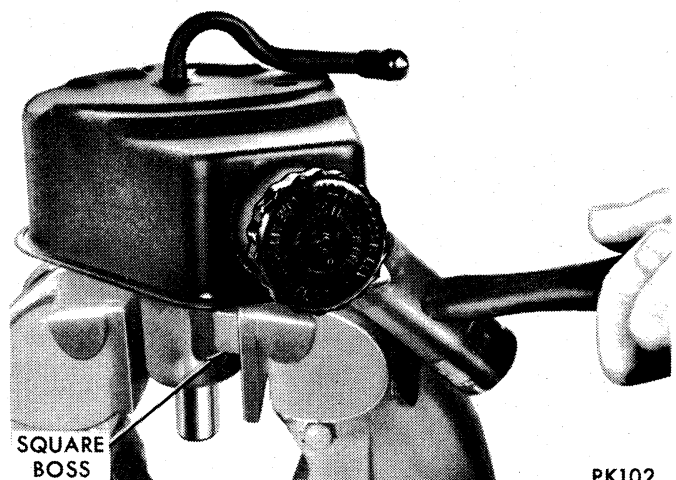

Fig. 5—Removing Reservoir
(6) Remove two mounting studs and pressure hose fitting. Gently tap reservoir filler tube back and forth with plastic hammer to loosen. Work reservoir off pump body (Fig. 5). Discard "O" rings from reservoir, two mounting studs and pressure fitting.
(7) Using a punch, tap end cover retainer ring around till one end of ring is near hole in pump body. Insert punch in hole far enough to disengage ring from groove in pump bore and pry ring out of pump body.
(8) Tap end cover with plastic hammer to jar it loose. Spring under cover should push cover up.
(9) Remove pump body from vise, place in inverted position on flat surface and tap end of drive shaft with plastic hammer to loosen pressure plate, rotor and thrust plate assembly from body. Lift pump body